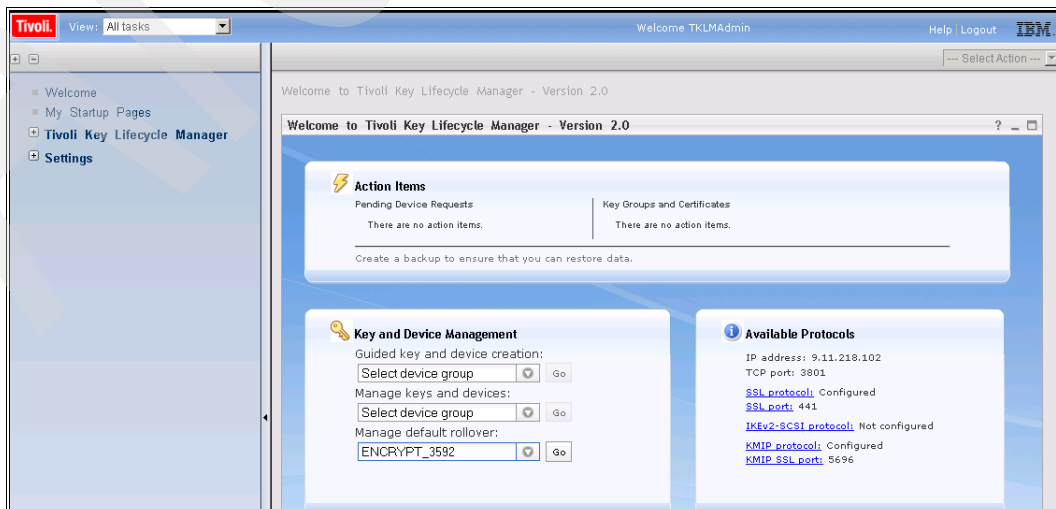

Figure 9-70 Welcome panel with selected manage default rollover
2. On the Welcome panel, select the 3592 device group from the **Manage keys and devices** drop-down list and click **Go** (Figure 9-70).